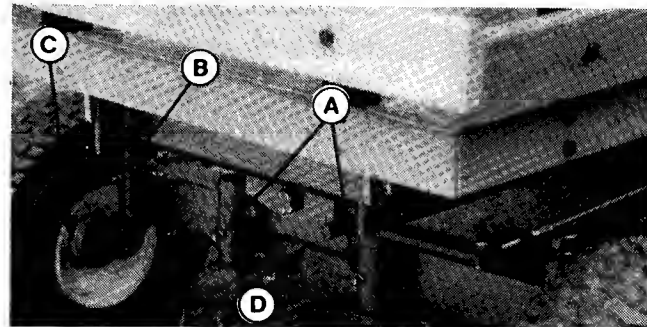

Figure 10. Grease Fittings
2. With a grease gun, apply one or two shots of lithium based automotive grease to the grease fittings shown in figures 10 and 11.